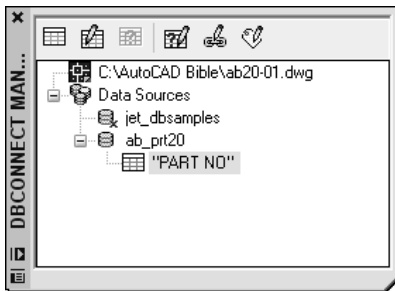

Figure 20-8: Displaying a database table in the dbConnect Manager window
1. `Ab20-01.dwg` should still be open from the previous exercise. If there's a plus sign next to `ab20-prt`, click it to display the "PART NO" table. The dbConnect window should look similar to Figure 20-8.